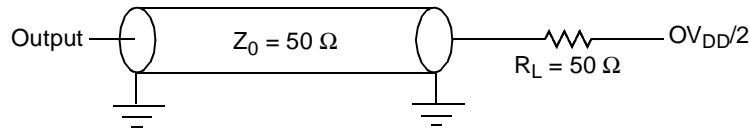

Figure 14. Local Bus C Test Load
Figure 14 provides the AC test load for the local bus.
1. All outputs are measured from the midpoint voltage of the falling/rising edge of t_{TCLK} to the midpoint of the signal in question. The output timings are measured at the pins. All output timings assume a purely resistive 50-Ω load (see Figure 14). Time-of-flight delays must be added for trace lengths, vias, and connectors in the system.
2. The symbols used for timing specifications follow the pattern of $t_{(first\ two\ letters\ of\ functional\ block)(signal)(state)(reference)(state)}$ for inputs and $t_{(first\ two\ letters\ of\ functional\ block)(reference)(state)(signal)(state)}$ for outputs. For example, $t_{JTDV\overline{K}H}$ symbolizes JTAG device timing (JT) with respect to the time data input signals (D) reaching the valid state (V) relative to the t_{JTG} clock reference (K) going to the high (H) state or setup time. Also, $t_{JTD\overline{X}KH}$ symbolizes JTAG timing (JT) with respect to the time data input signals (D) went invalid (X) relative to the t_{JTG} clock reference (K) going to the high (H) state. Note that, in general, the clock reference symbol representation is based on three letters representing the clock of a particular functional. For rise and fall times, the latter convention is used with the appropriate letter: R (rise) or F (fall).